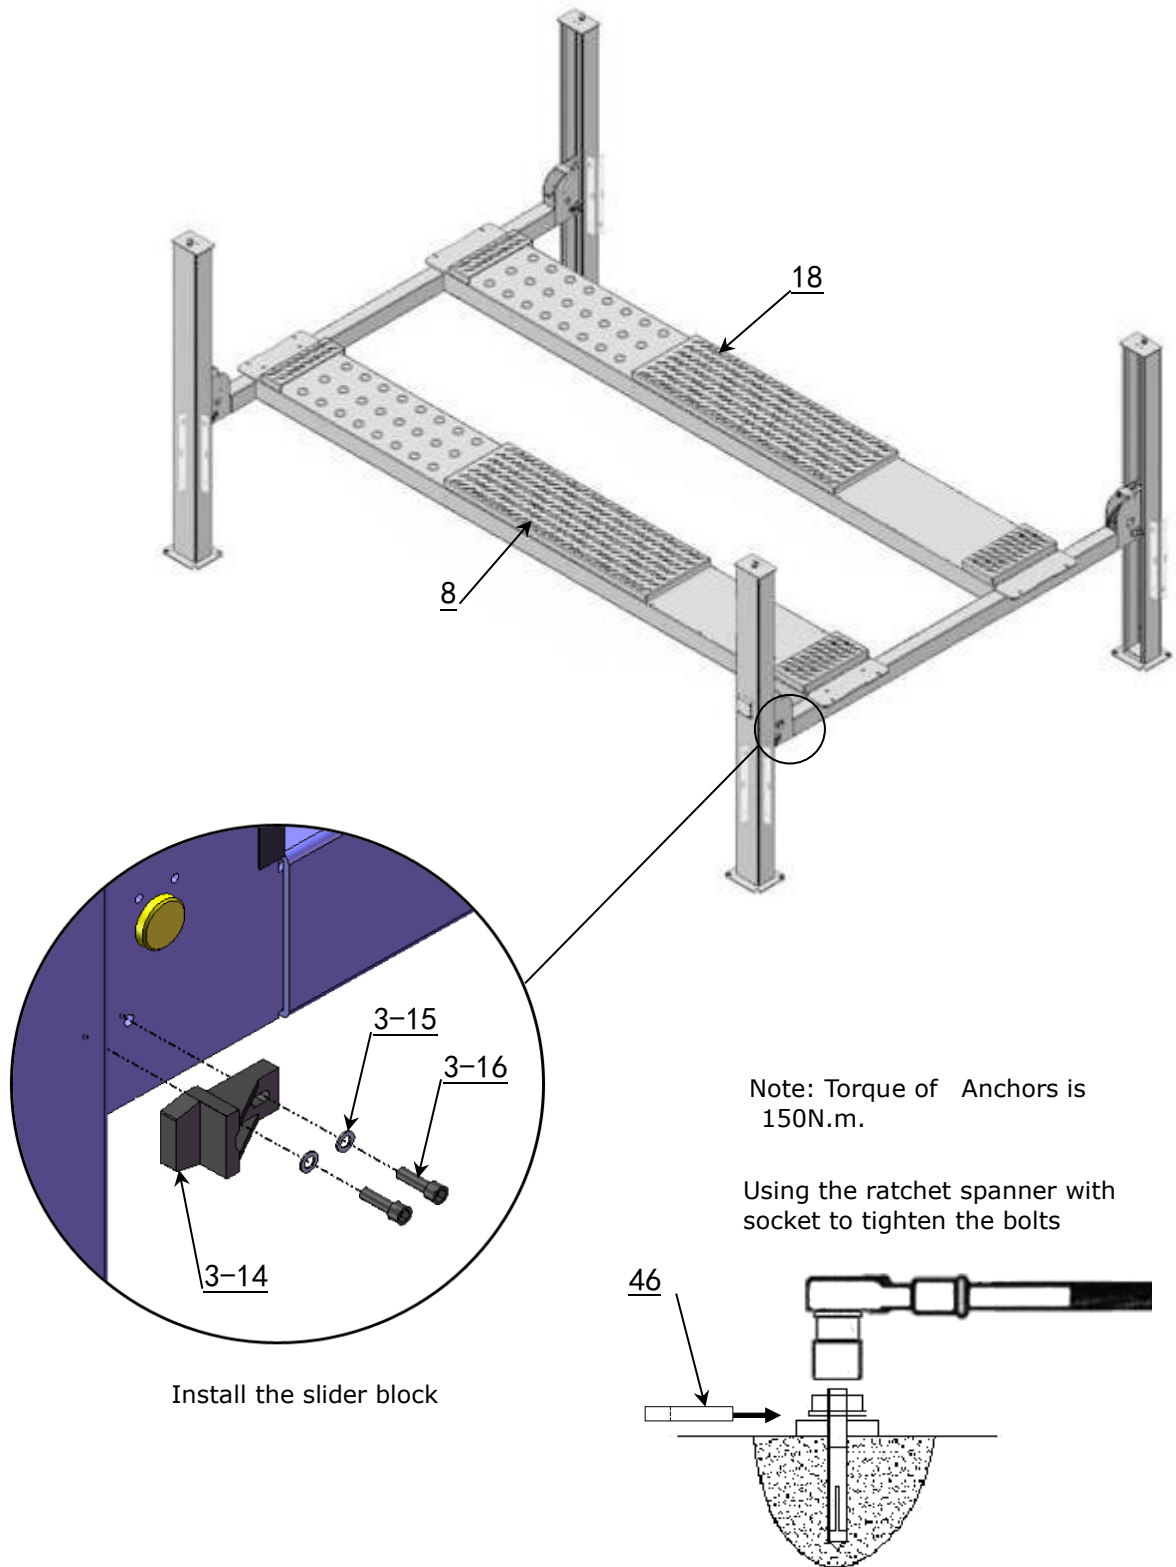

Fig. 20
I. Assembly offside platform and slider block, check the vertical of columns with Level bar, adjusting with the shims if not, and then tighten the anchor bolts (**See Fig. 20**).